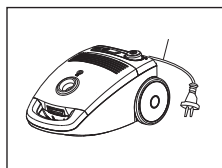

Fig. 5
3. Pull out the power cable as needed, but not more than up to the yellow mark marking the maximum length (fig. 5). Never pull the cable past the red mark!